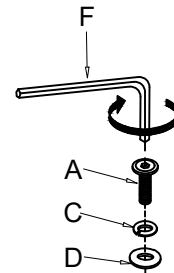

Figure 1
Attach the legs to the tabletop, using Flat Washers (D), Lock Washers (C), Bolts (A) with Allen key (F). Don't tighten (see Figure 1).